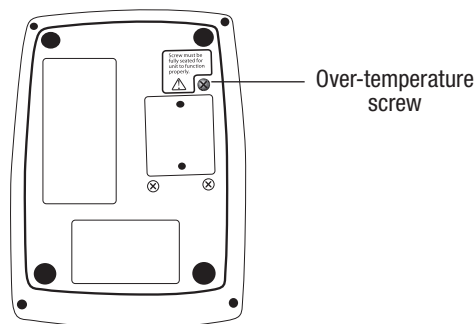

Fig. 3: Ranger irrigation over-temperature screw
7. Loosen the over-temperature screw on the bottom of the Ranger irrigation unit (see Fig. 3). Listen for a slight click as the microswitch opens. **Loosen ½ turn more.** This unit is now in over-temperature test mode, and the temperature output of the unit should begin to rise. When the Ranger display reads 48°C, verify that an audible alarm sounds, the alarm light illuminates, and the display alternately flashes “HI” and the plate temperature.